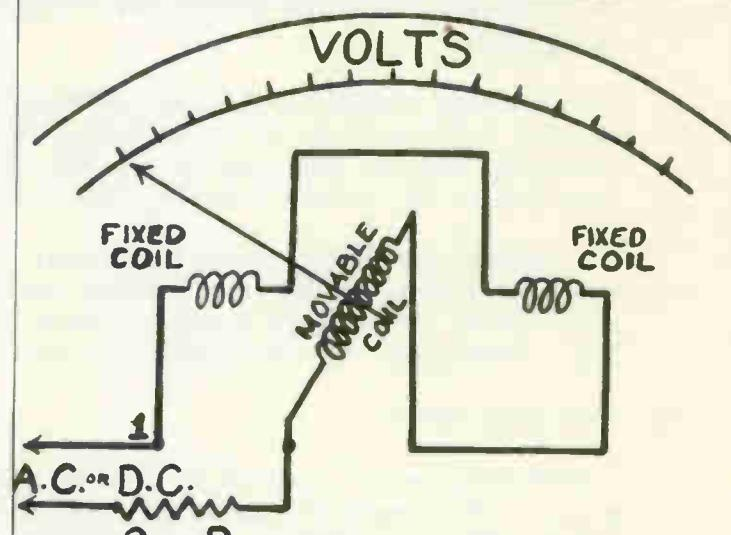

Fig. 5 - Dynamometer type voltmeter
- a. Voltmeter, Fig. 5 -- The d-c galvanometer cannot be used on AC because the frequency changes faster than the needle can move, resulting in a zero reading. If the permanent magnets are replaced with two electromagnets, however, this meter can be used on AC since the current would change in the field coils and in the moving coil at the same time. This instrument, known as a dynamometer voltmeter, has coil windings of many turns of fine wire to limit the current to a small value. This type of instrument is most efficient in the higher ranges.